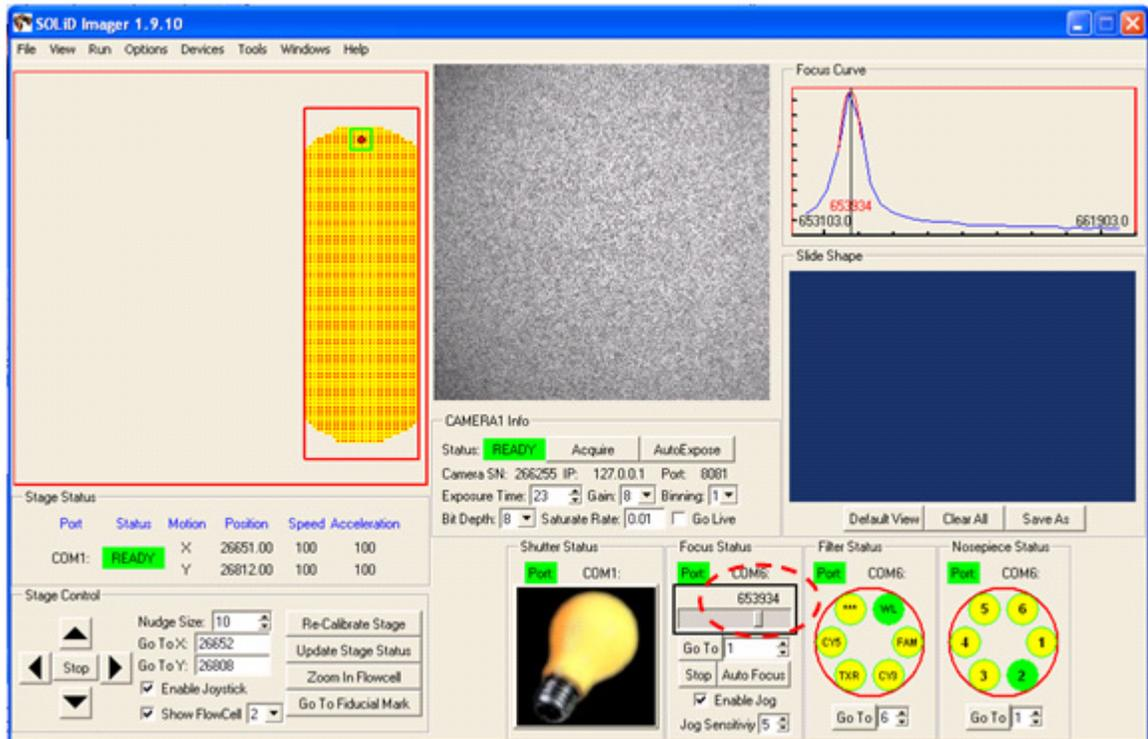

Figure 78 Record the nominal Z distance.
1. When the image is in focus, record the value of the Z distance in the Focus Status pane. This is the *nominal Z distance* for this flowcell. Be sure to record the correct Z distance value, not the value in the GoTo window (see Figure 78).